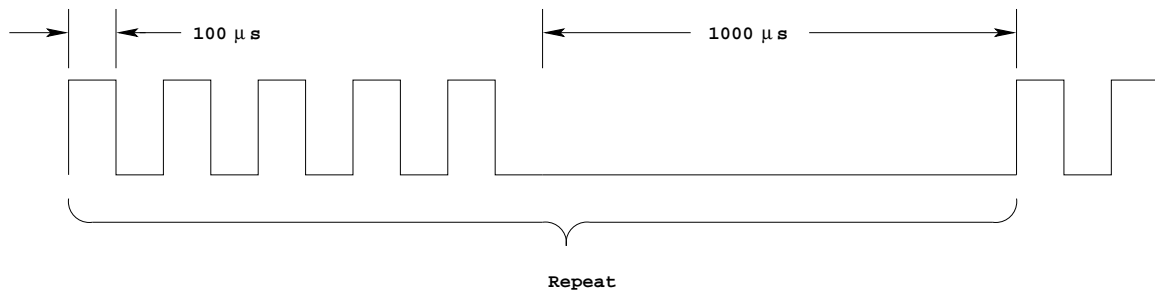

Figure 2: Friend signal for Part 6.
7. Connect your square wave and friend signals to a logic analyzer. Verify that the square wave has a 1 kHz frequency and a 50% duty cycle, and that the friend signal looks like the Figure 2.